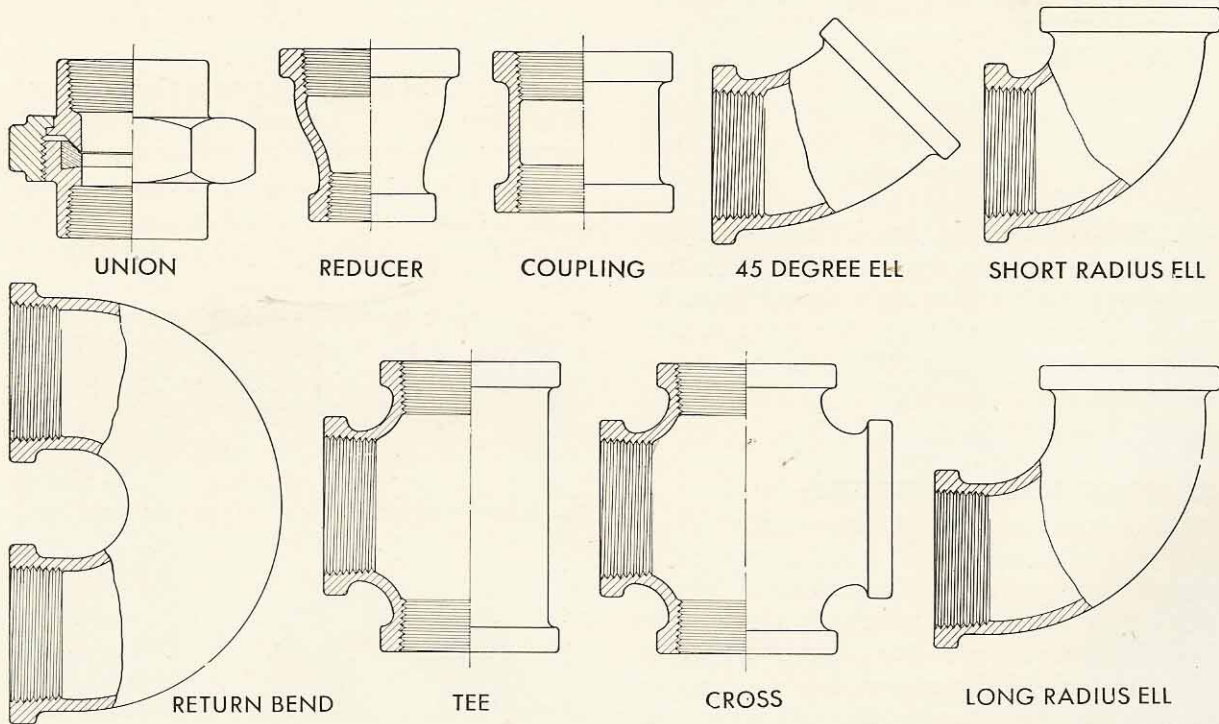

FIGURE 8-25
39. PIPE AND FITTINGS: Pipe comes in lengths, and to make up a pipe line there must be some way of joining one length to another. Piping smaller than two-inch diameter is usually made up with screwed fittings, with all screw threads tapered. The simplest form of screwed connection is a pipe coupling, shown in Figure 8-25. A more elaborate but more useful type is a union, also shown in that figure. Other fittings shown are 90-degree long- and short-radius elbows, called ells, 45-degree ells, tees, crosses, reducers and return bends.